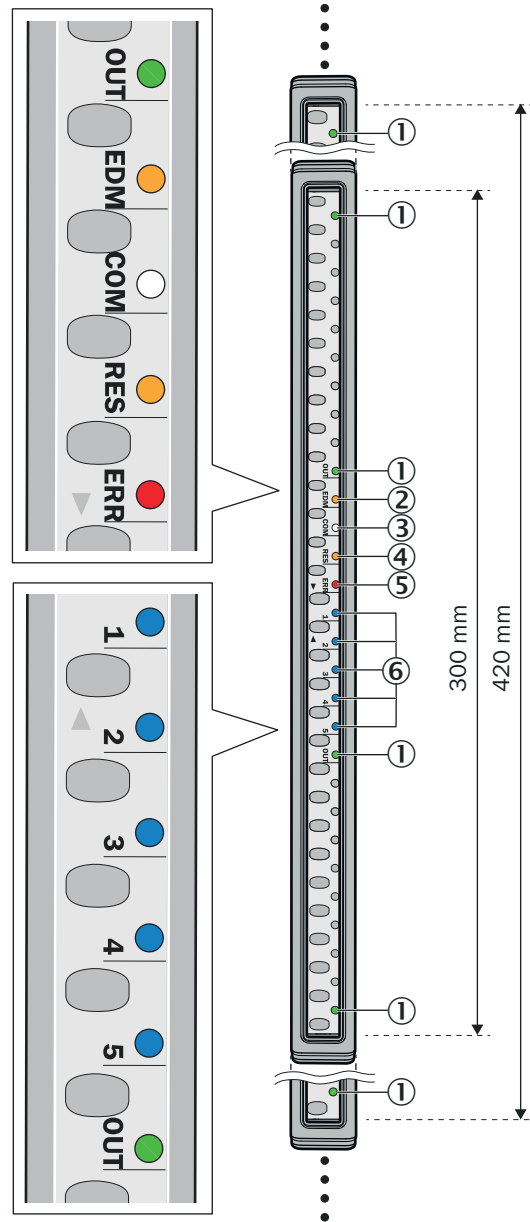

Figure 6: LEDs on the twin sticks
- ① OUT
- ② EDM
- ③ COM
- ④ RES
- ⑤ ERR
- ⑥ 1, 2, 3, 4, 5
figure 6 shows the LEDs of the safety light curtain. The OUT LED (①) is mounted in multiple locations and can light up red or green. It is only labeled OUT in two locations on the safety light curtain.